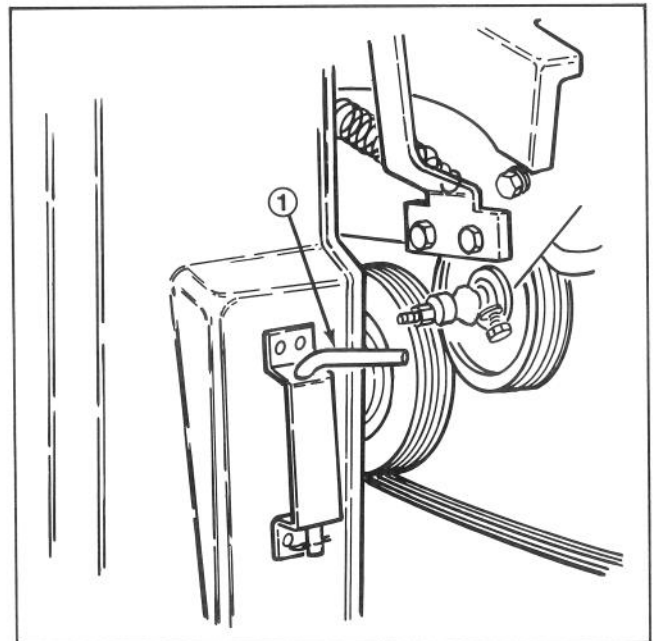

Figure 24
1. Remove override pin from storage bracket on front of coring head cover (Fig. 24).